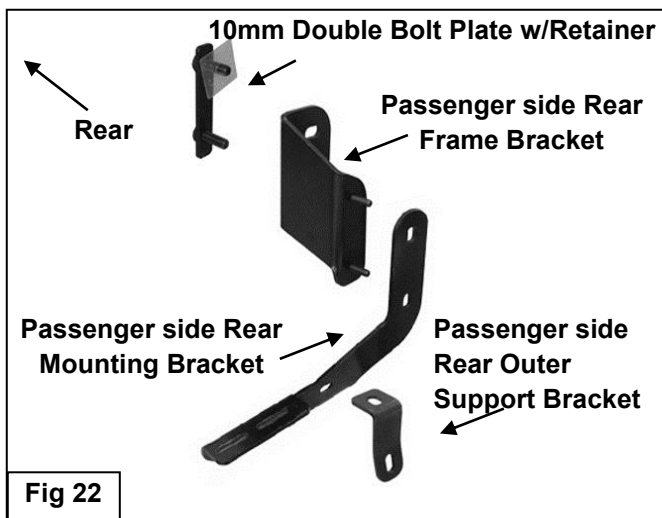
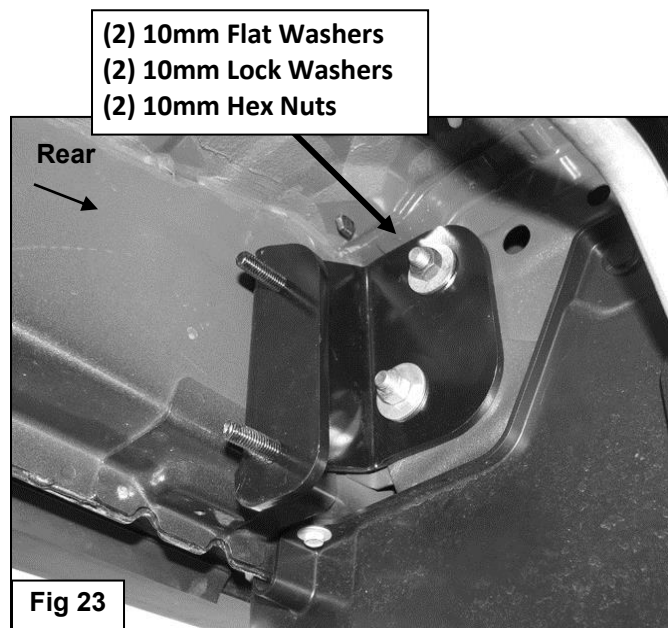

Fig 22
Fig 23
16. Select the passenger side rear Frame Bracket, **(Figure 22)**. Attach the Frame Bracket to the Double Bolt Plate with (2) 10mm Flat Washers, (2) 10mm Lock Washers and (2) 10mm Hex Nuts, **(Figure 23)**. Do not tighten hardware at this time. Next, attach the driver side Rear Mounting Bracket to the front of the Frame Bracket with (2) 8mm Flat Washers, (2) 8mm Lock Washers and (2) 8mm Hex Nuts, **(Figure 24)**. Do not tighten hardware at this time.
(2) 8mm Hex Nuts
17. Select the passenger side "7" Rear Support Bracket, (**Figure 25**). Attach the Support Bracket to the rear Bolt Plate with (1) 10mm Flat Washer, (1) 10mm Lock Washer and (1) 10mm Hex Nut, (**Figures 22 & 26**). Do not tighten hardware. Line up the remaining hole in the Rear Bracket with the "7" Rear Support Bracket. Bolt the Mounting Bracket to the back of the "7" Rear Support Bracket with (1) 8mm Hex Bolt, (2) 8mm Flat Washers, (1) 8mm Lock Washer and (1) 8mm Hex Nut, (**Figure 26**). Do not tighten hardware at this time.